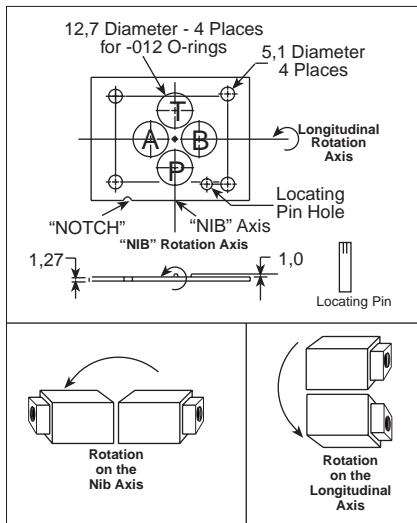

Figure 1: Body Rotation Reference
Sun's ISO 03 sandwich bodies are designed for multi-functional use to permit maximum circuit flexibility. Due to this versatility, the ISO 03 sandwich bodies do not have a counterbore for installing O-ring seals. Instead, Sun uses a special seal plate with a raised "NIB" and a locating "NOTCH". Sun bodies incorporate oversize, symmetrical mounting holes to allow the bodies to be rotated about the "NIB" axis and the longitudinal axis as shown in Figure 1.
1. Place the Sun seal plate, with the “NIB” facing upward, in the proper position to correctly align the mounting holes and fluid ports. At this time, the “NOTCH” in the seal plate must be adjacent to the “P” port of the valve interface. See Figure 1.